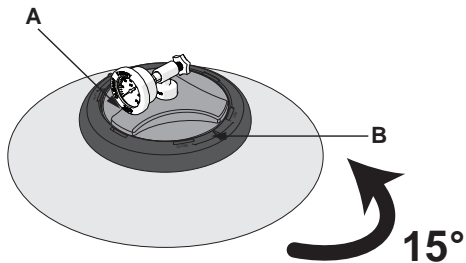

Figure 7. Loosen Hand Wheel
- Take care not to dislodge the vent tubing and vent screen. See **Figure 7**.
12. Make sure that the automatic vent tubing is in place (threaded through the diffuser) and the vent screen is installed at the top of the vent tubing. See Figure 7.
1. Turn the hand wheel (A) in an anti-clockwise direction until it becomes loose. Fig. 7
3. Before removing the lid, turn it 15° in an anti-clockwise direction (B) Fig. 7. Lift the whole lid by the hand wheel.